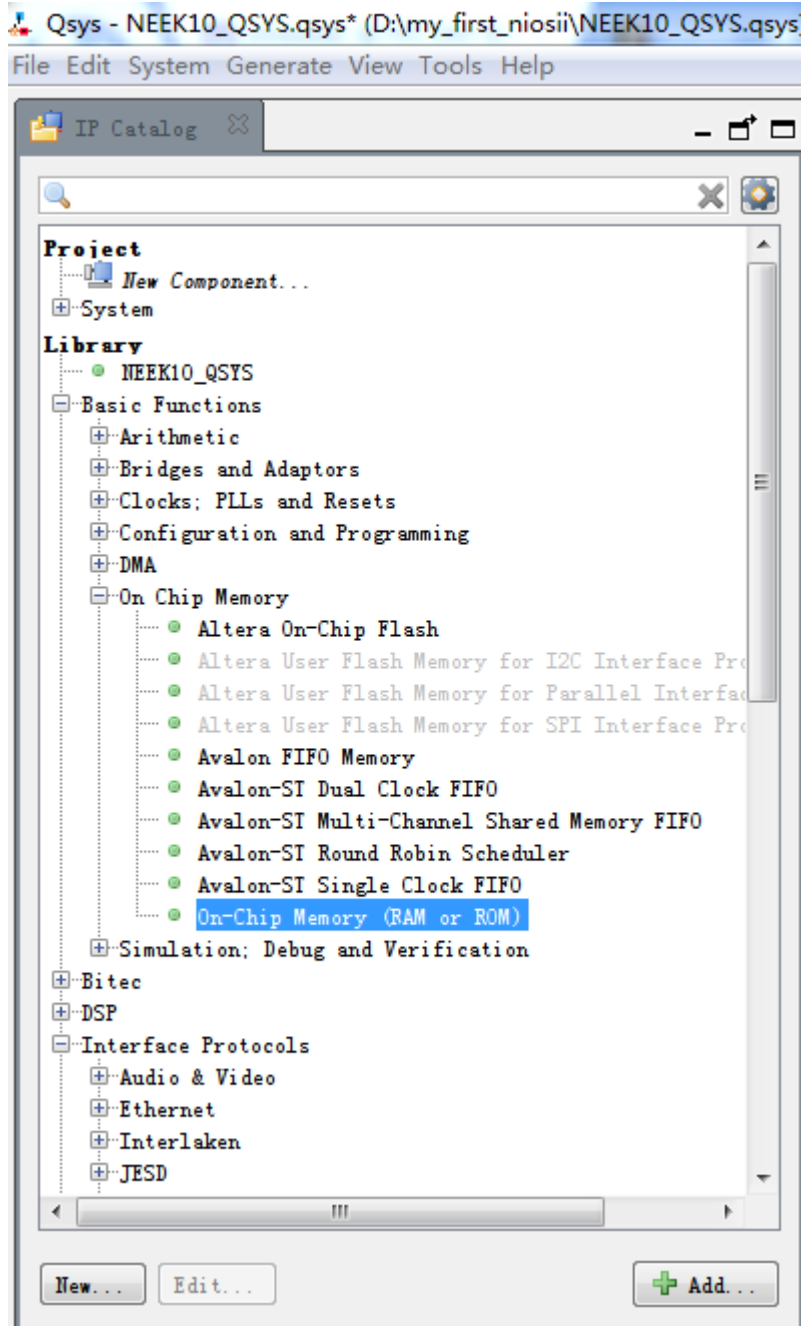
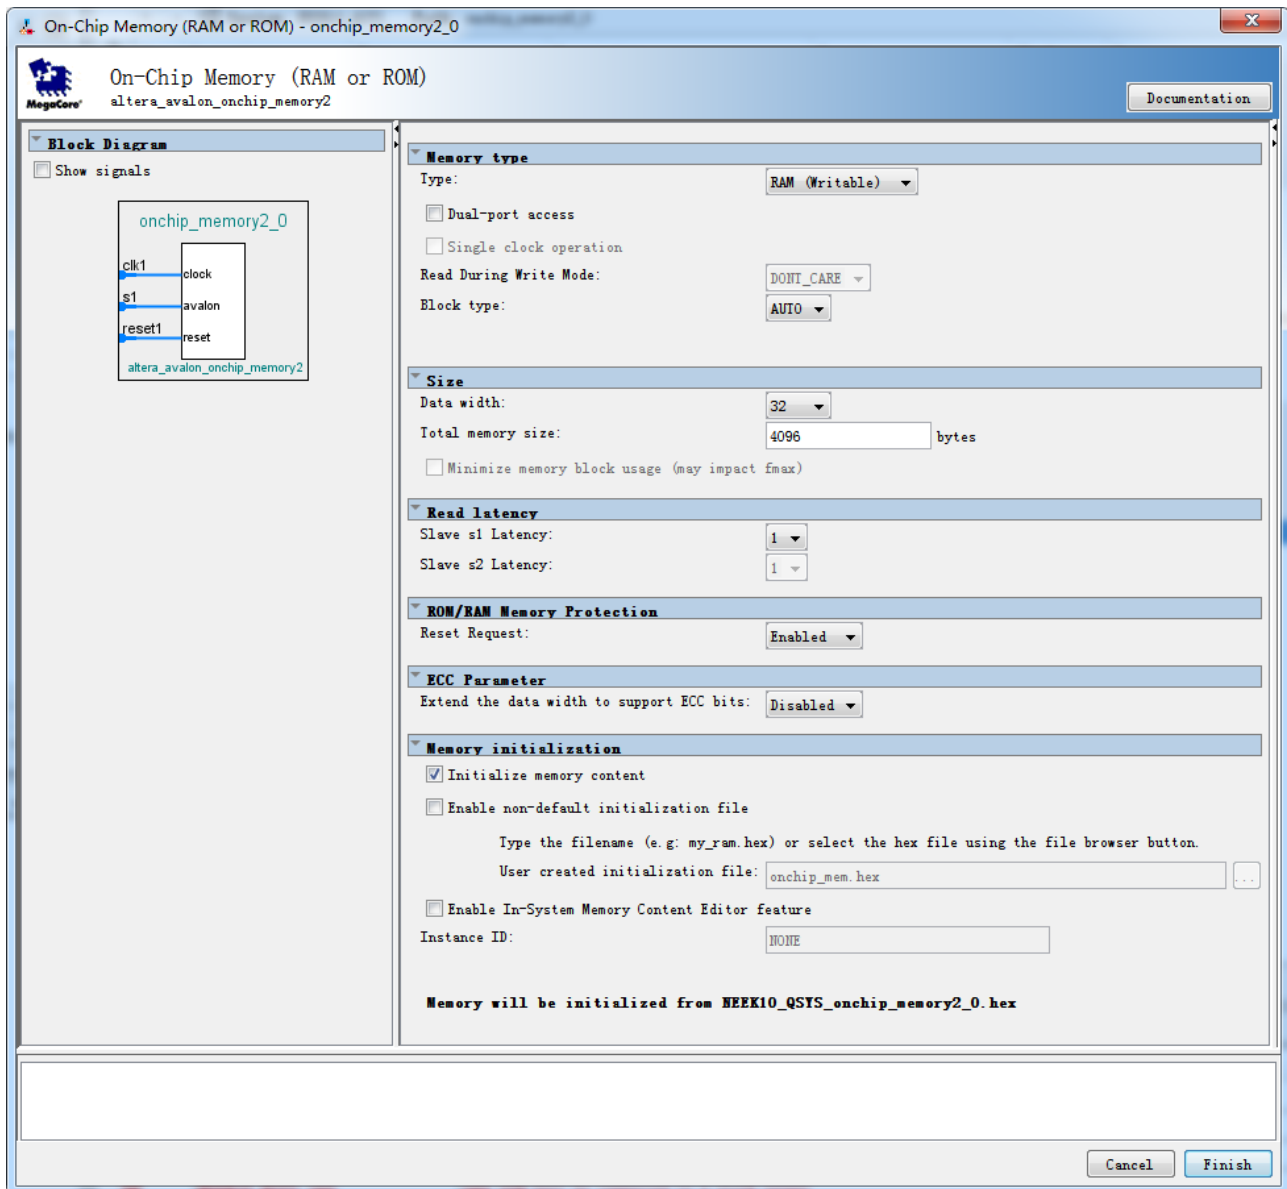

Figure 1-22 Add On-Chip Memory
Figure 1-23 On-Chip Memory Box
13. Choose **Library** -> **Basic Functions** -> **On-Chip Memory**-> **On-Chip Memory (RAM or ROM)** to add On-Chip memory, as shown in **Figure 1-22** and **Figure 1-23**.